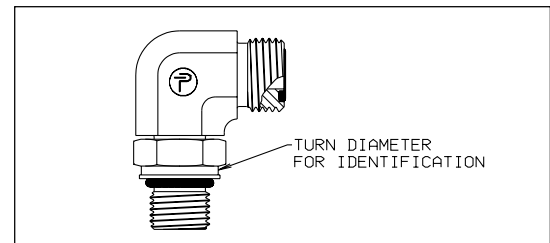

Fig. 13 — Metric Seal-Lok Elbow Stud Fitting
- The lock nut on shaped connectors (stud elbows, tees and crosses) have a similar turn diameter adjacent to the washer, without a groove, as seen in Fig. 13.